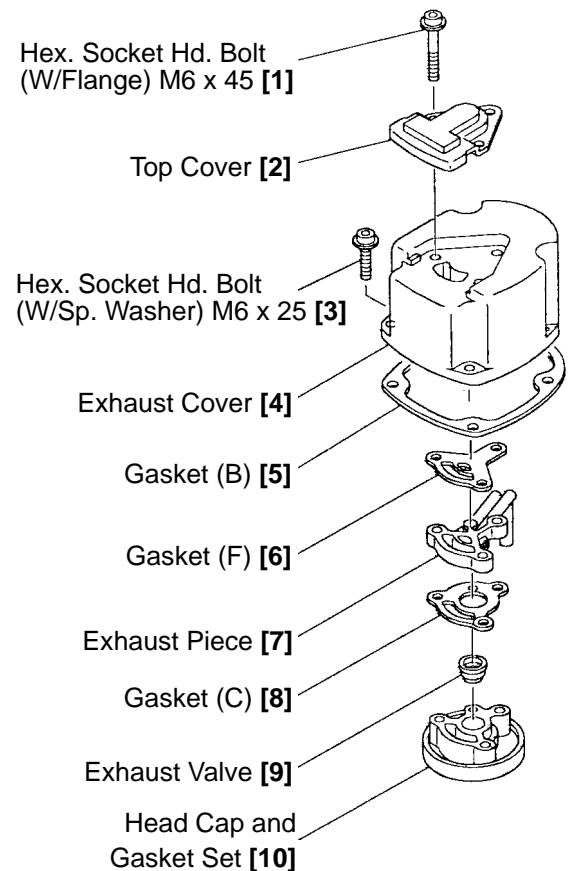

Fig. 12 Disassembly of main body, upper part
(2) Head Cap and Gasket Set [10], Exhaust Piece [7] and related parts (See Fig. 12.)